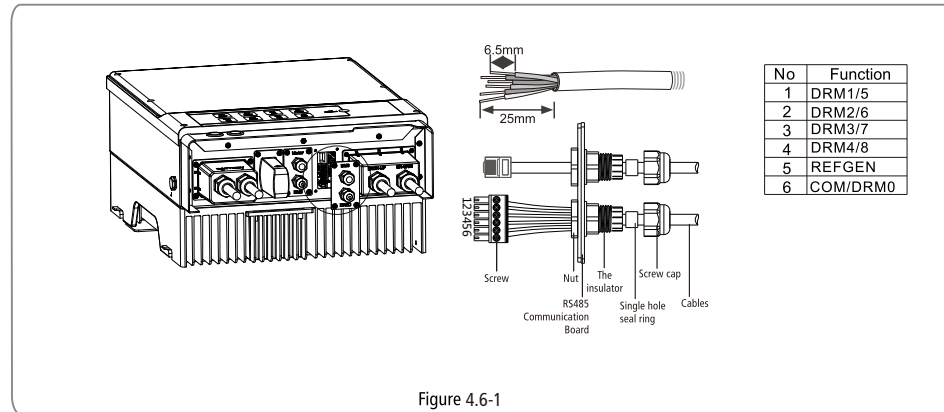

Figure 4.6-1
- Pull out the 6-pin terminal from the socket in the cabinet and take off the resistor which is fixed in it. Cable should be connected as Figure 4.6-1.